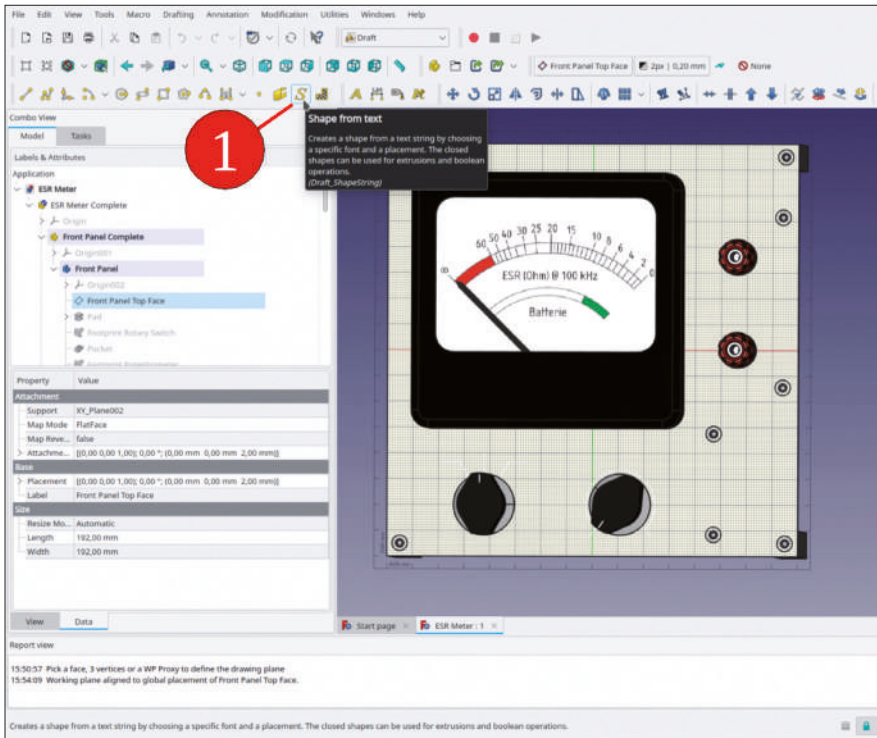

Figure 8-27
1. Click on the 'Shape from text' tool button (Figure 8-27).